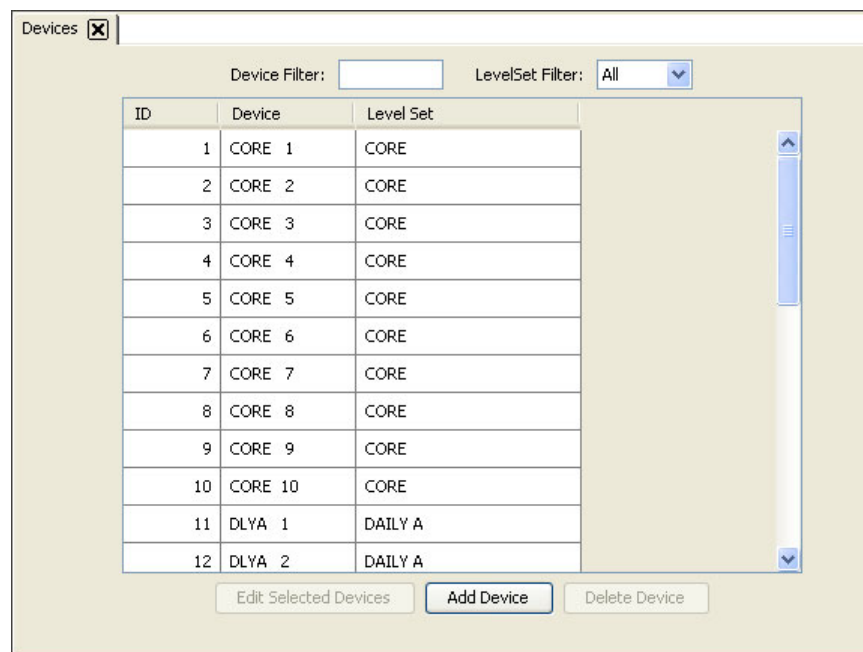

Figure 9-11. Devices Page
- 1 From the Navigation area, select the 'Configuration' pane and then 'Devices'. The 'Devices' page displays, as shown in Figure 9-11.